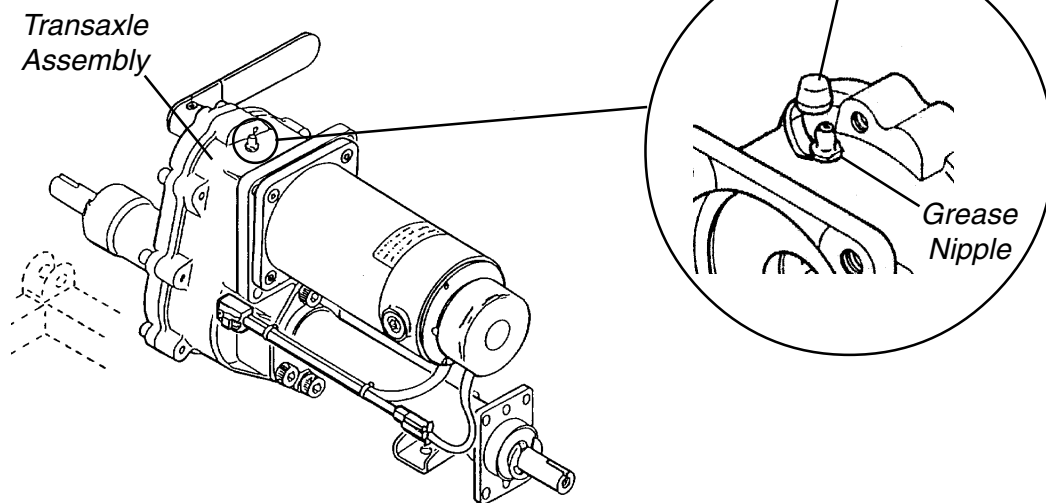

FIGURE 1 - INITIAL MAINTENANCE PROCEDURES
Initial Maintenance Procedures (FIGURE 1)
4. For the **PANTHER MX-4 ONLY**, remove the cover from the grease nipple located on TOP of the transaxle assembly (FIGURE 1).